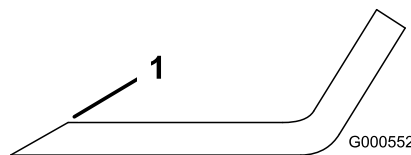

Figure 53
1. Use a file to sharpen the cutting edge at both ends of the blade (Figure 53).
Note: If the blade is not balanced, file some metal off only the end of the sail area (Figure 53).